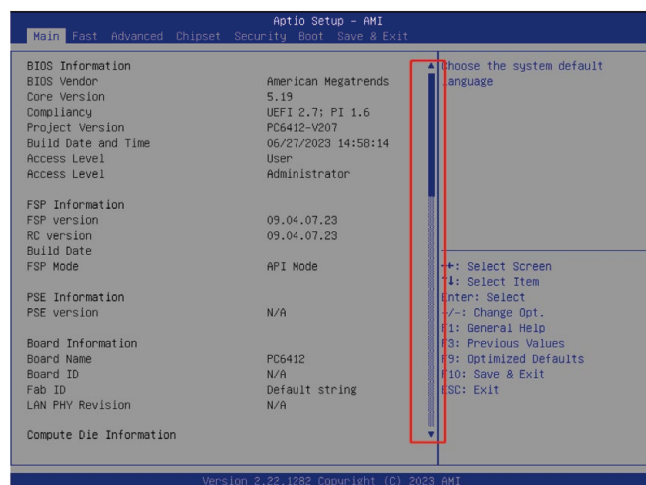

Figure 2-9-2
② Press CTRL + F1 to enter BIOS administrator mode. When the drop-down progress bar appears, it indicates success. Figure 2-9-2.